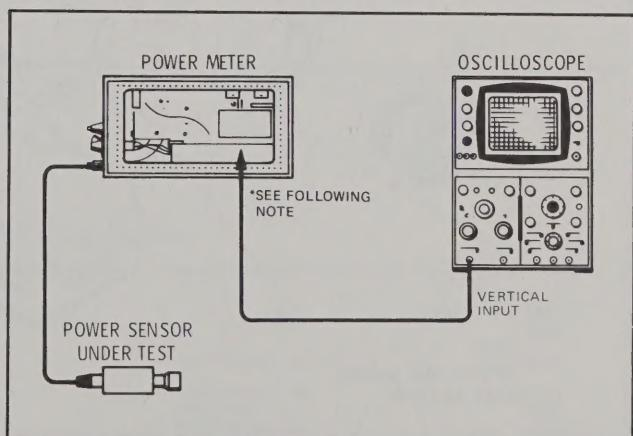

Figure 4. FET Balance Equipment Setup
**34. Procedure.** Connect the equipment as shown in Figure 4. Set the power meter range control to 3  $\mu$ W. Check the amplitude of the switching transients (spikes) on the oscilloscope display. If A2C2 or A2C7 is in the circuit, vary its value between 1 and 10 pF until the balance point (minimum spike amplitude) is found. If the balance point is not reached, remove the capacitor and follow the same procedure using the other capacitor location (A2C2 or A2C7). When the